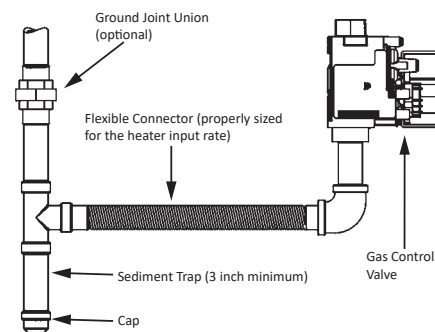
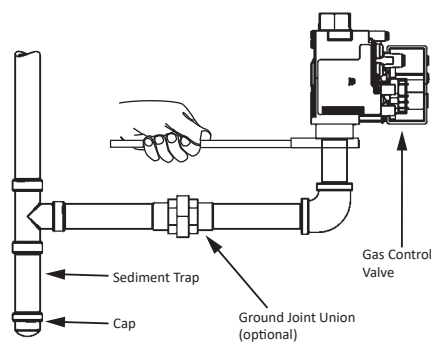

Figure 52. Flexible Pipe to Gas Valve
Figure 53. Black Pipe to Gas Valve
Follow the instructions below and see *Figure 52* and *Figure 53* for gas piping installation.
- Install a ground union between the water heater and the manual shut-off valve. This is to allow easy servicing. See *Figure 53* (page 42).